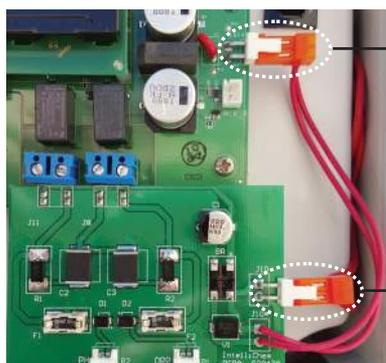

Figure 4. Power Connection
6. Unplug the red wire harness going to J10 of the IntelliChem Controller board, and connect it to J10 on the 522478 daughter board. See Figure 4.
7. Plug the wire harness from J10* of the 522478 daughter board to J10 of the IntelliChem Controller board. See Figure 4.